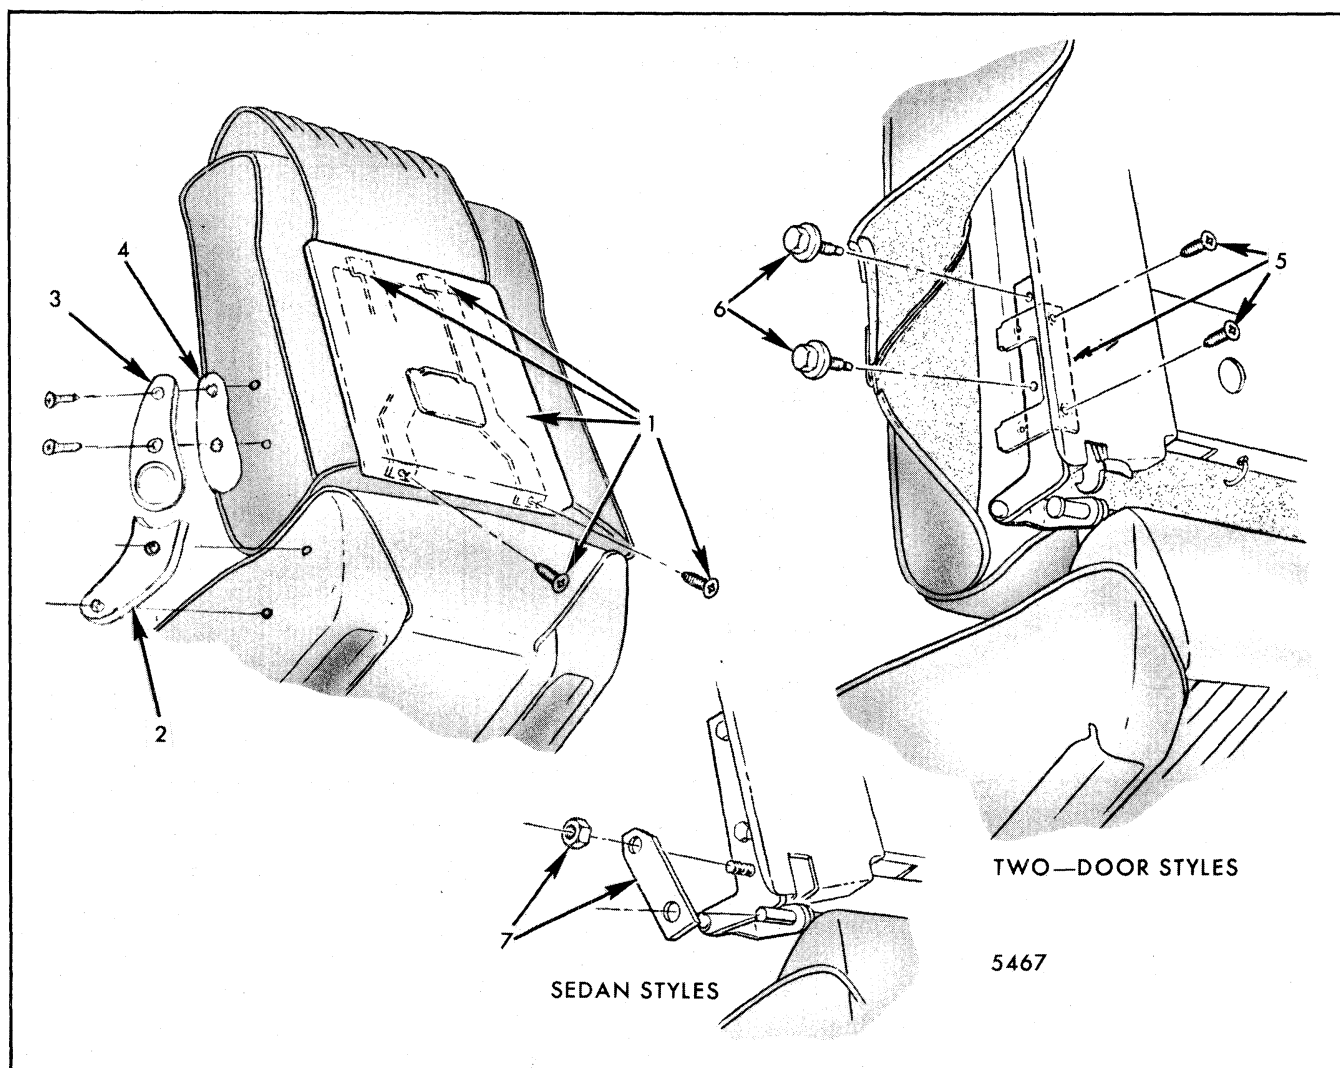

Fig. 9-48-Salon Bucket Seat Reclining Back Hinge - Passenger Seat Shown - Oldsmobile "A" Styles
3. Remove seat side upper panel from both sides of seat back and side upper panel outer reinforcement from outer side of seat back (Fig. 9-48).
cover from seat back frame sufficient to expose hinge-to-seat back attaching screws (Fig. 9-48).
5. Remove hinge-to-seat back attaching screws (Fig. 9-48) and remove seat back.